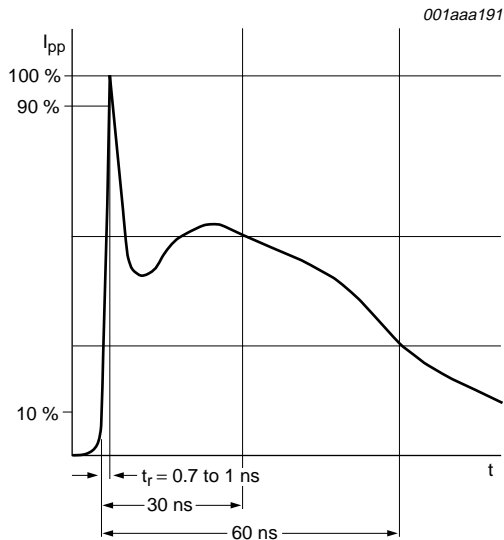

Fig.3 Electrostatic Discharge (ESD) pulse waveform according to IEC 61000-4-2.
1. Device stressed with ten non-repetitive Electrostatic Discharge (ESD) pulses; see Fig.3.